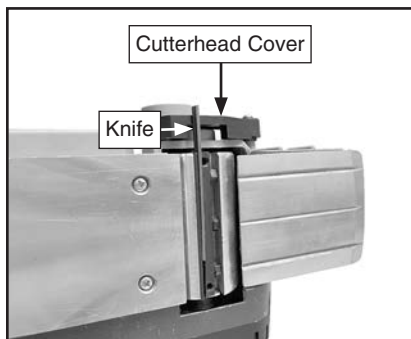

Figure 26. Removing knife.
4. Press cutterhead cover back, then use flat head screwdriver to slide knife out of cutterhead (see **Figure 26**).